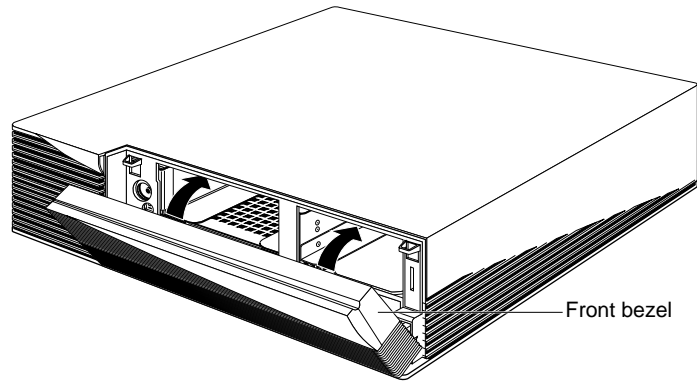

Figure 3-14 Replacing the front bezel on the Indigo² chassis
6. Replace the front bezel, place the tabs on the bottom of the bezel in the grooves in the front of the chassis, as shown in Figure 3-14.